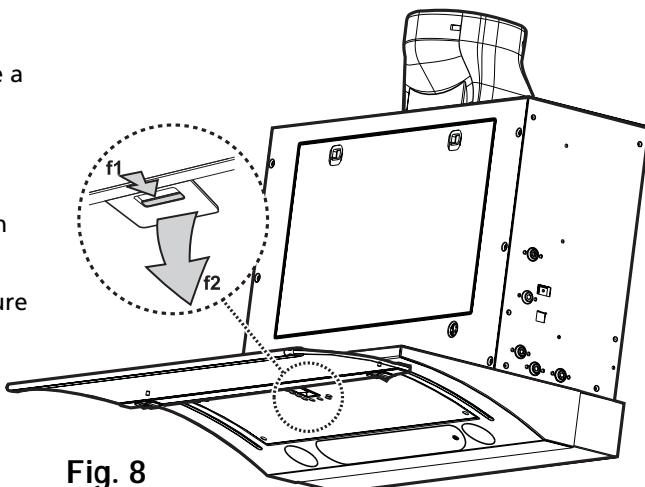

Fig. 8
2. Remove the grease filters - **Fig. 8:** pull the spring release handle (**f1-f2**) downwards, then remove the filter.
2. Remove the grease filter (**f1-f2** - **Fig. 8**).